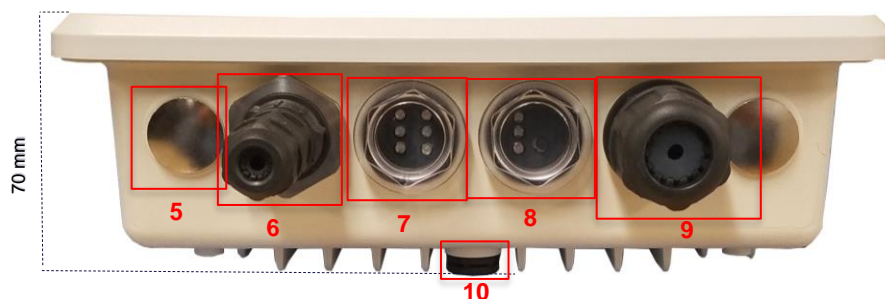

Figure 43: Side panel of the IP67 Rated Sentrius™ RG1xx Gateway (Current Generation)
6. Mount the completed cables into the keyed power module slot and the Ethernet module slot #8 and #9 from Figure 43.